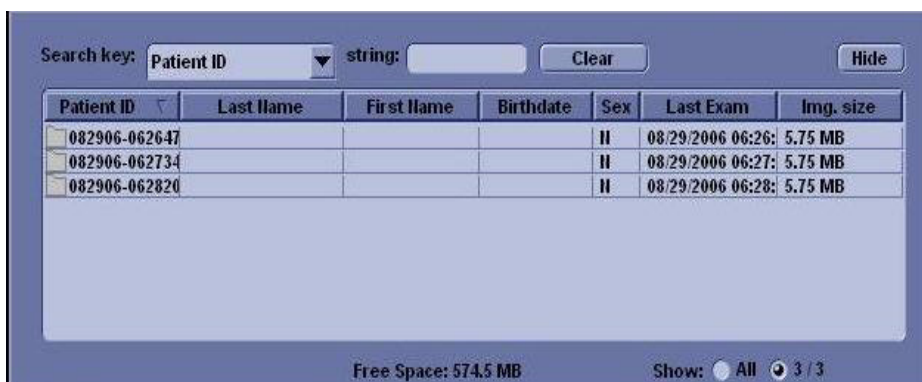

Figure 4-18 Destination Section of Patient Screen
- 6.) The progress bar appears as the copy is taking place. Once transfer completed, the exported patient list will be shown as Figure 4-18.